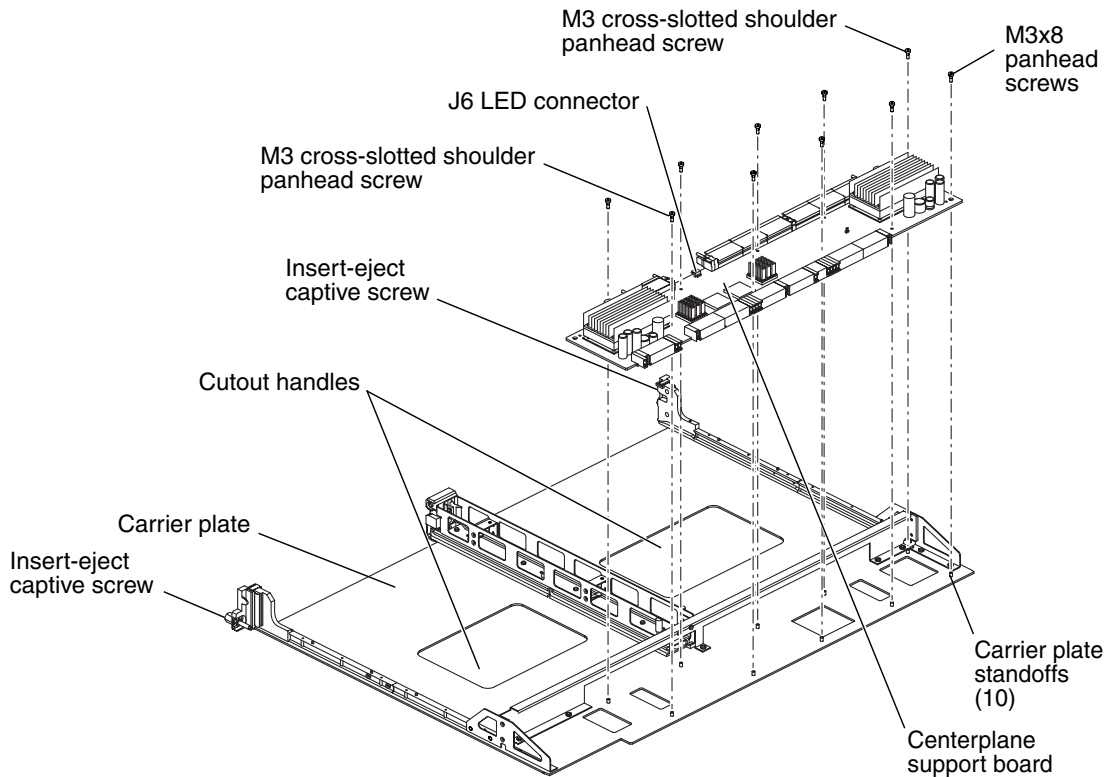

FIGURE 11-2 Centerplane Support Board and Carrier Plate
4. **Be sure to read the label on the inside corner trims of the chassis and then use the two (2) 0.5 in. (13 mm) nut drivers to release the carrier plate captive ejector screws simultaneously until they are fully disengaged.**
7. **Using a Phillips No. 2 screwdriver, remove the two (2) M3 cross-slotted shoulder panhead screws.**
8. **Remove the eight (8) M3x8 panhead screws.**
9. **Firmly grasp the centerplane support board lifting upward and pulling out away from the carrier plate standoffs (FIGURE 11-2).**